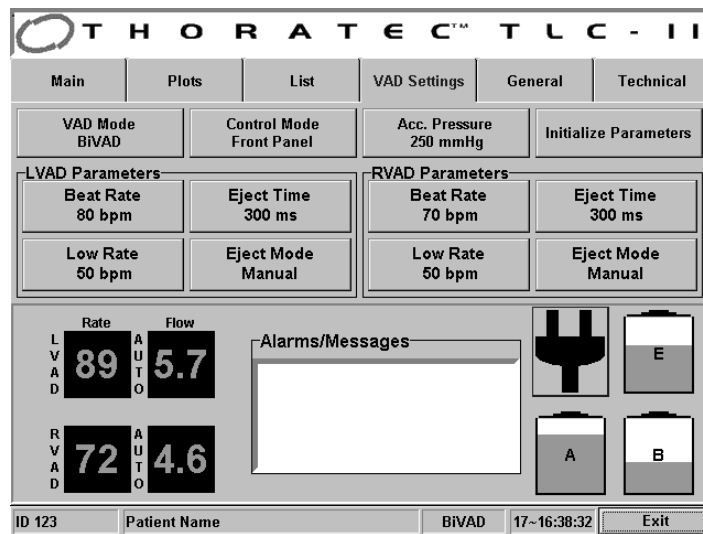

Figure 4.7 HeartTouch Computer “VAD Settings Screen”
- 4.2.13 Verify that the TLC-II is communicating with the HeartTouch computer by noting that the display for VAD rate on the touchscreen monitor shows a numeric rate value, and the power source indicators are illuminated on the touchscreen (**Figure 4.7**).
- 4.2.18 Touch the **VAD Settings** Tab and examine the existing settings for the TLC-II (**Figure 4.7**).